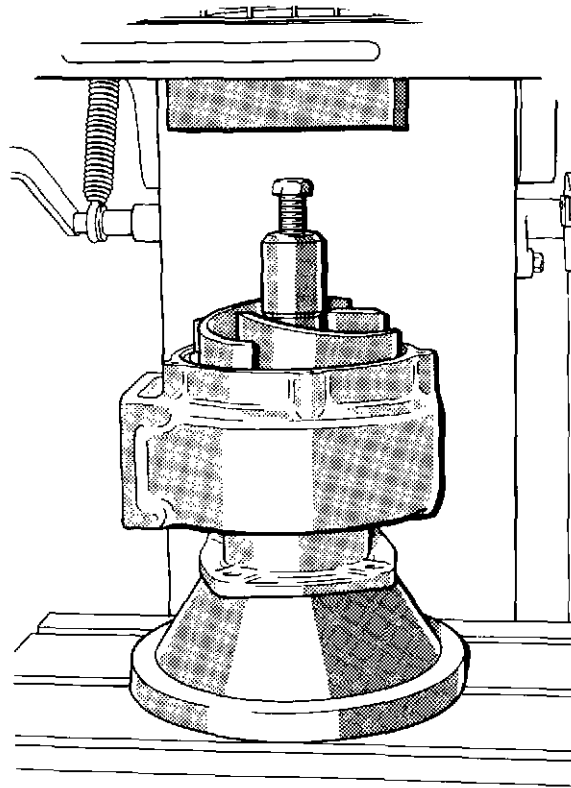

Fig. 8 Refitting the impeller
- 44 Fit the impeller on the end of the shaft, place the Insertion Tool, VT 12205, on the boss of the impeller (fig. 8) and, adjusting the insertion tool stop screw as necessary, press the impeller down, until the upper face of the boss is flush with the shoulder on the shaft.